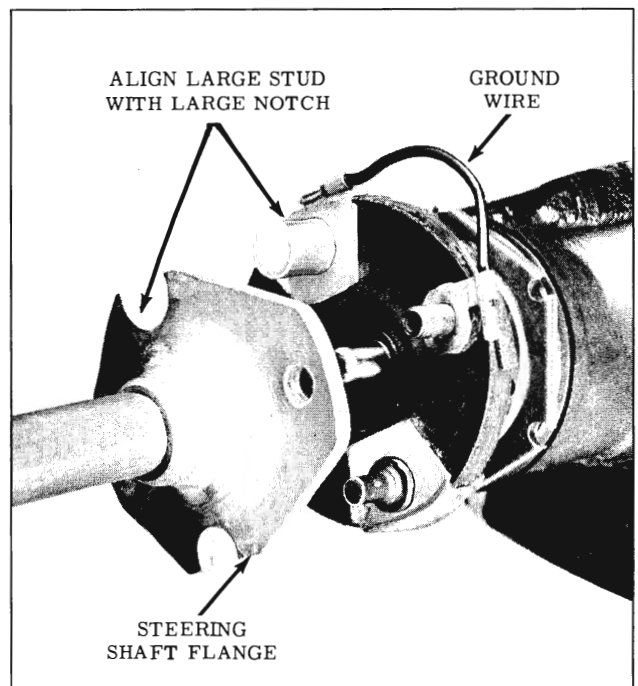

Fig. 4-248 Flexible Coupling
1. Remove the two coupling flange attaching nuts and lock washers. (Fig. 4-248)